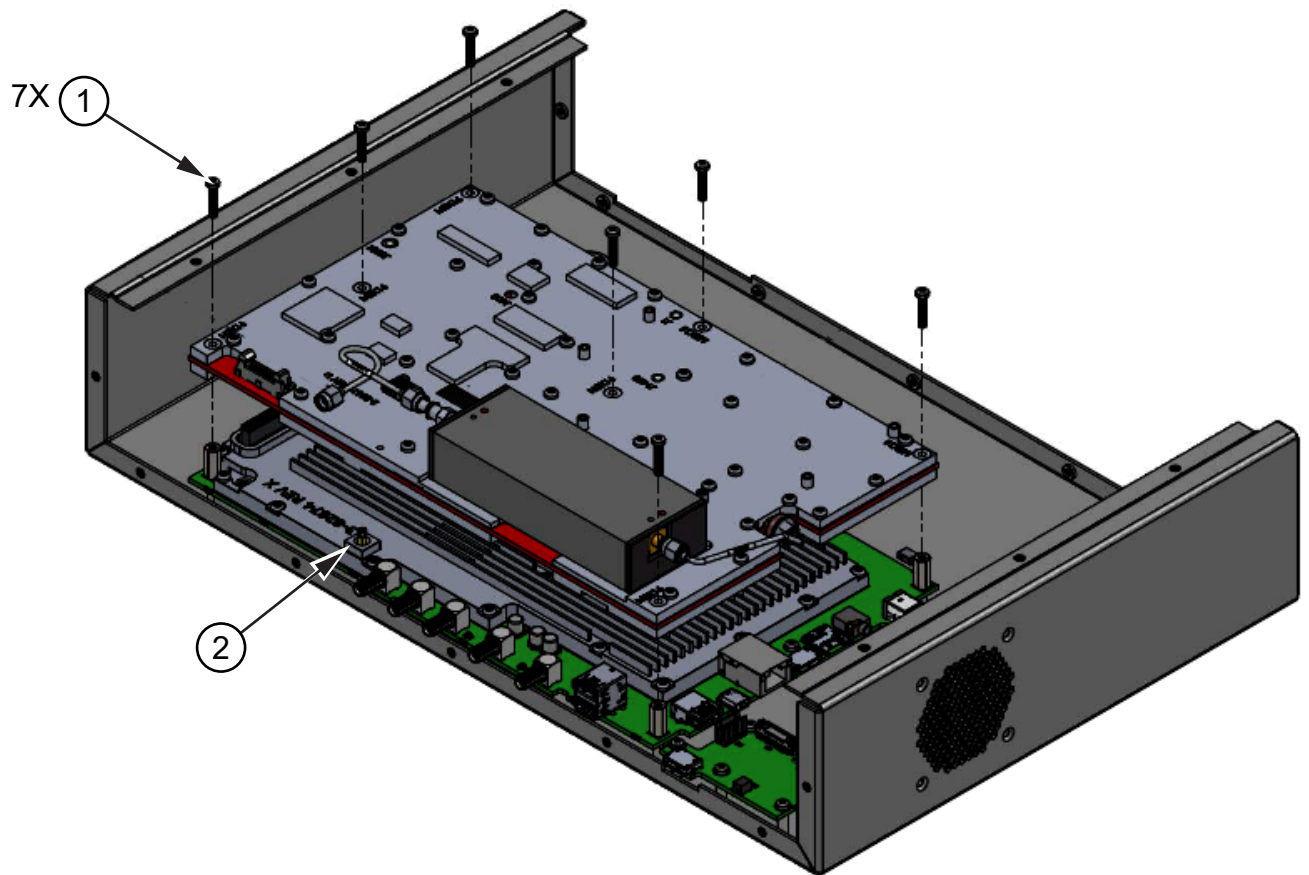

Figure 3-6. VSA Assembly Removal
3. Using a T10 Torx driver, remove the seven screws securing the VSA to the Main PCB, shown at location 1. See Figure 3-6.
4. Carefully lift the VSA straight up to remove it from the Main PCB, taking care of SMP Jack-to-Jack connector shown at location 2 and the high density connector shown at location 3. See Figure 3-6.